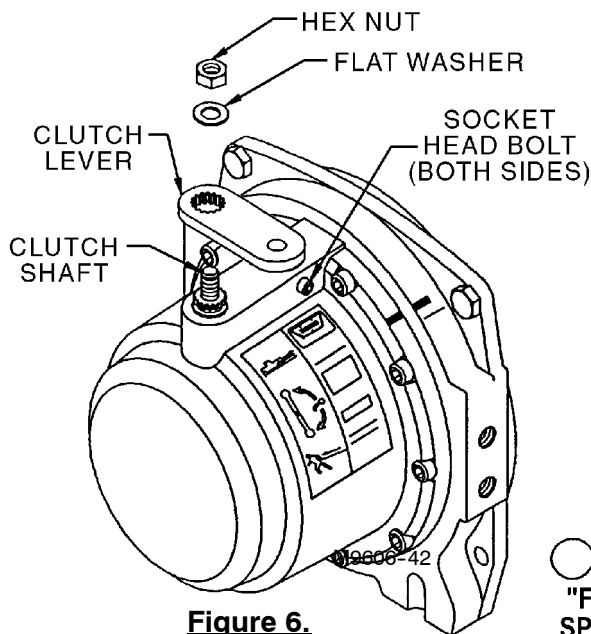

**Figure 5.**
**NOTE:** If the ring gear was separated from the gear housing (12,000 lb. models only) a new gasket should be installed there also. See Figure 5.
The gear housing may need to be lined-up before bolting down. For housing to line-up properly, it may be necessary to slightly rotate the ring gear inside the gear housing. Also, the detent assembly can be temporarily removed, but must be installed before bolting down the gear housing. See Figure 5.